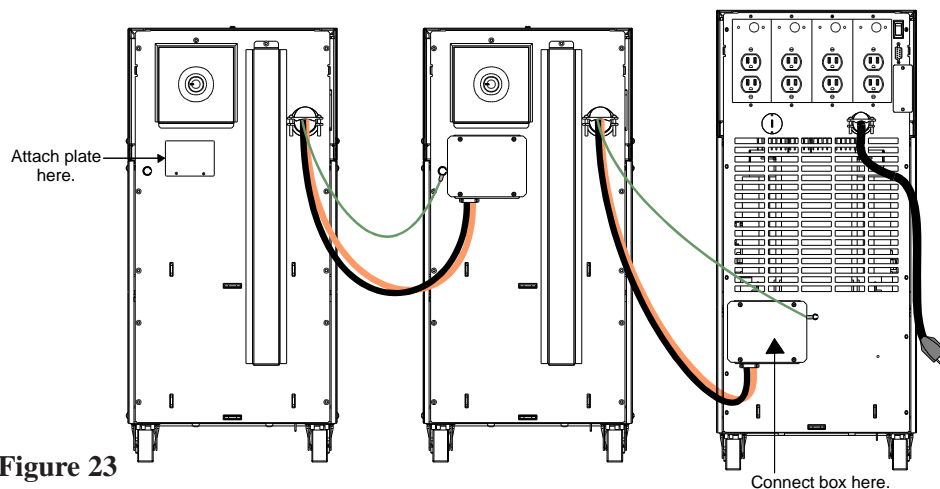

Figure 23
9. *If your UPS has more than one battery cabinet*, put the DC box from the second battery cabinet into the connector on the back of the first battery cabinet as shown in Figure 23.
10. Put the DC box from the third battery cabinet into the connector on the back of the second battery cabinet as shown in Figure 23.
11. At the third battery cabinet, attach the metal plate you removed from the UPS to the back of the battery cabinet as shown in Figure 23. Use the screws that attached the plate to the UPS.